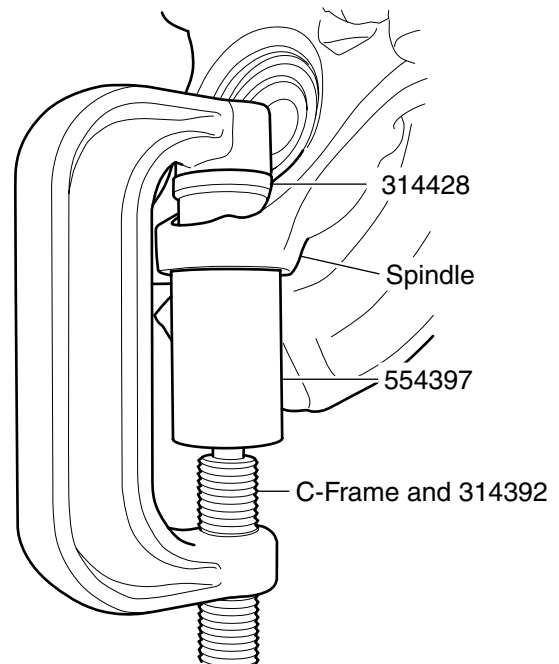

Figure 2. Ball Joint Installation
3. Position 554397 and 314428 on the ball joint as shown in Figure 2.